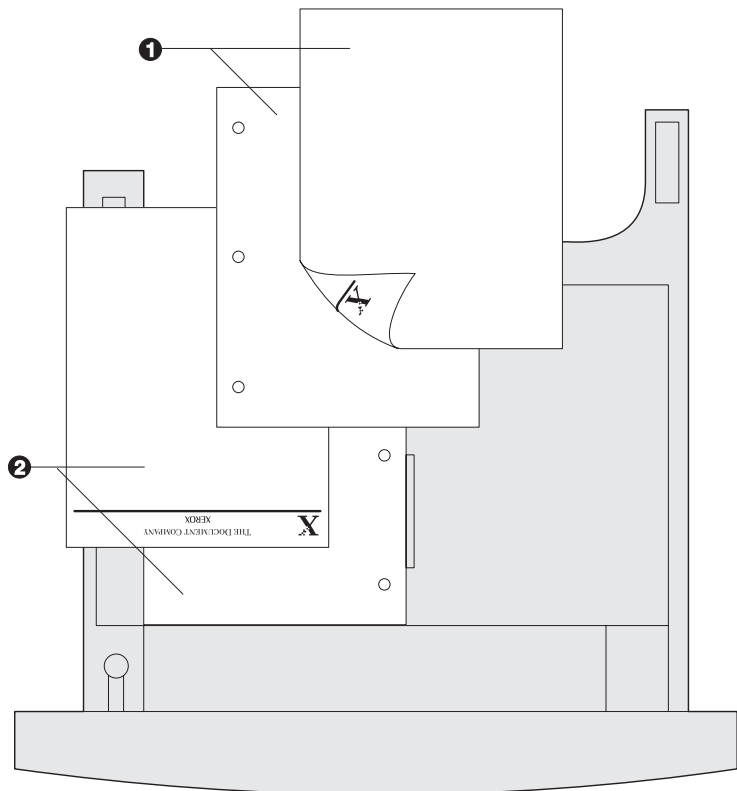

Figure 4.2 Trays 1/2/3 paper orientation (short edge feed)
- 5** Place the paper in the tray, between the guides (see Figure 4.1 on page 4-9 and Figure 4.2 on page 4-10 for orientation).